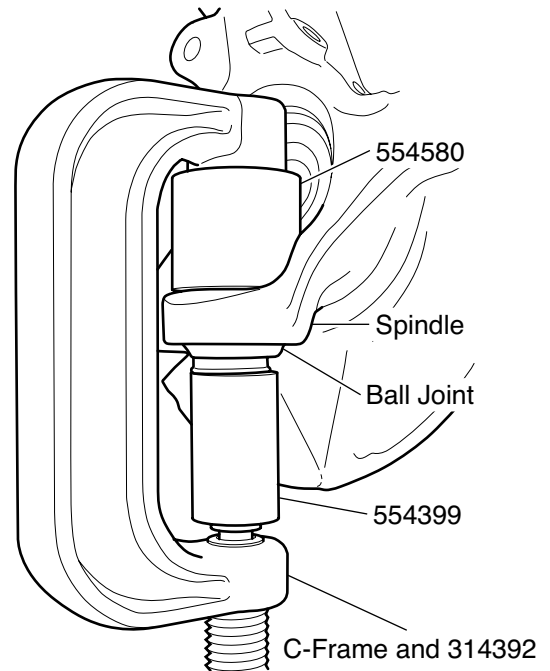

Figure 1. Ball Joint Removal
3. Position 554580, 314392 and the C-Frame as shown in Figure 1.